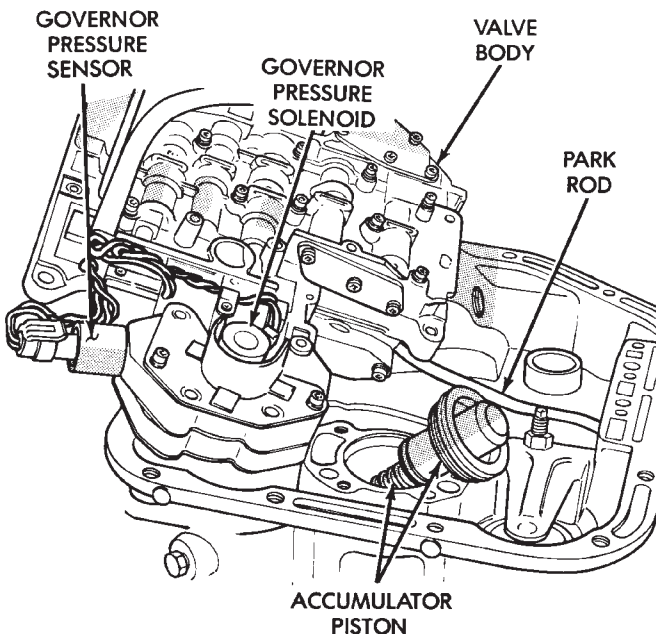

Fig. 184 Accumulator Piston And Springs
(50) Install accumulator piston and inner and outer springs (Fig. 184).
(51) Verify that park/neutral position switch has **not** been installed in case. Valve body can not be installed if switch is in position.
(52) Verify that valve body solenoid harness is secured in 3-4 accumulator housing cover plate.